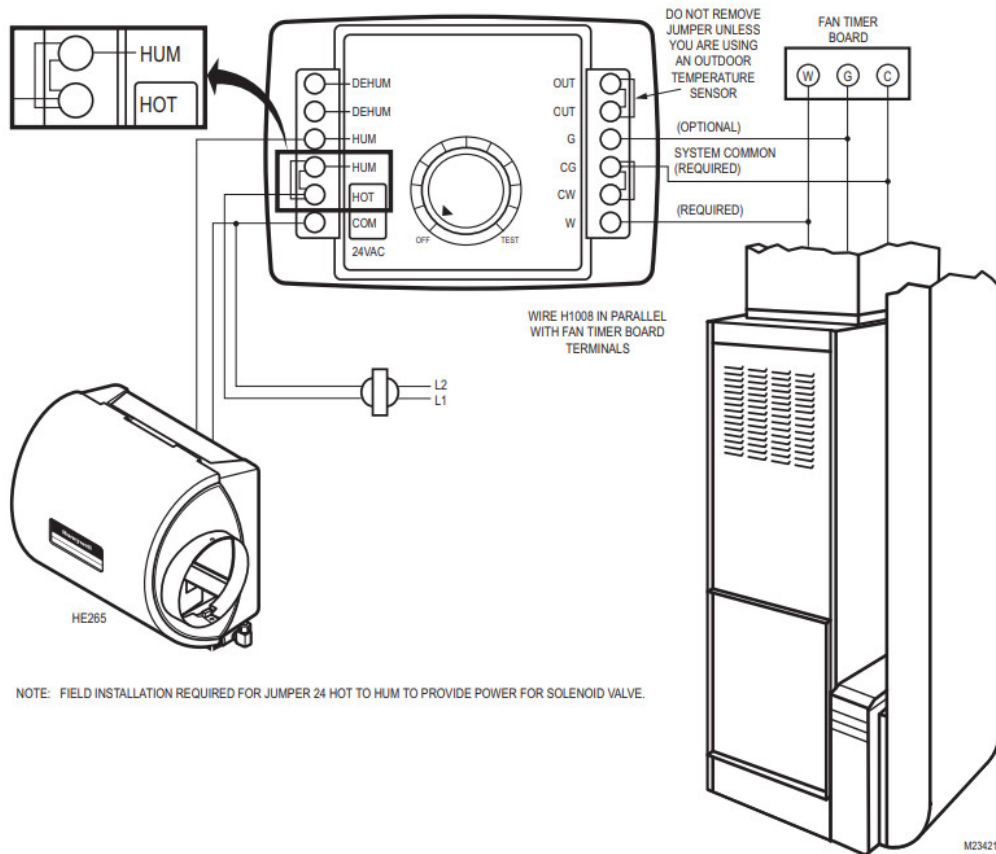

Fig. 5. Wiring for flow-through by-pass humidifiers.
2. Connect the humidifier to the two HUM terminals on the H1008A,D as shown in Fig. 5 through 8.